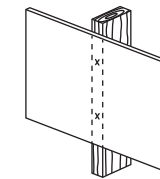

Fig. 1
- While another person holds the wall plate in position, mark two locations (top and bottom) for securing the mount to the wall (see Fig. 1).